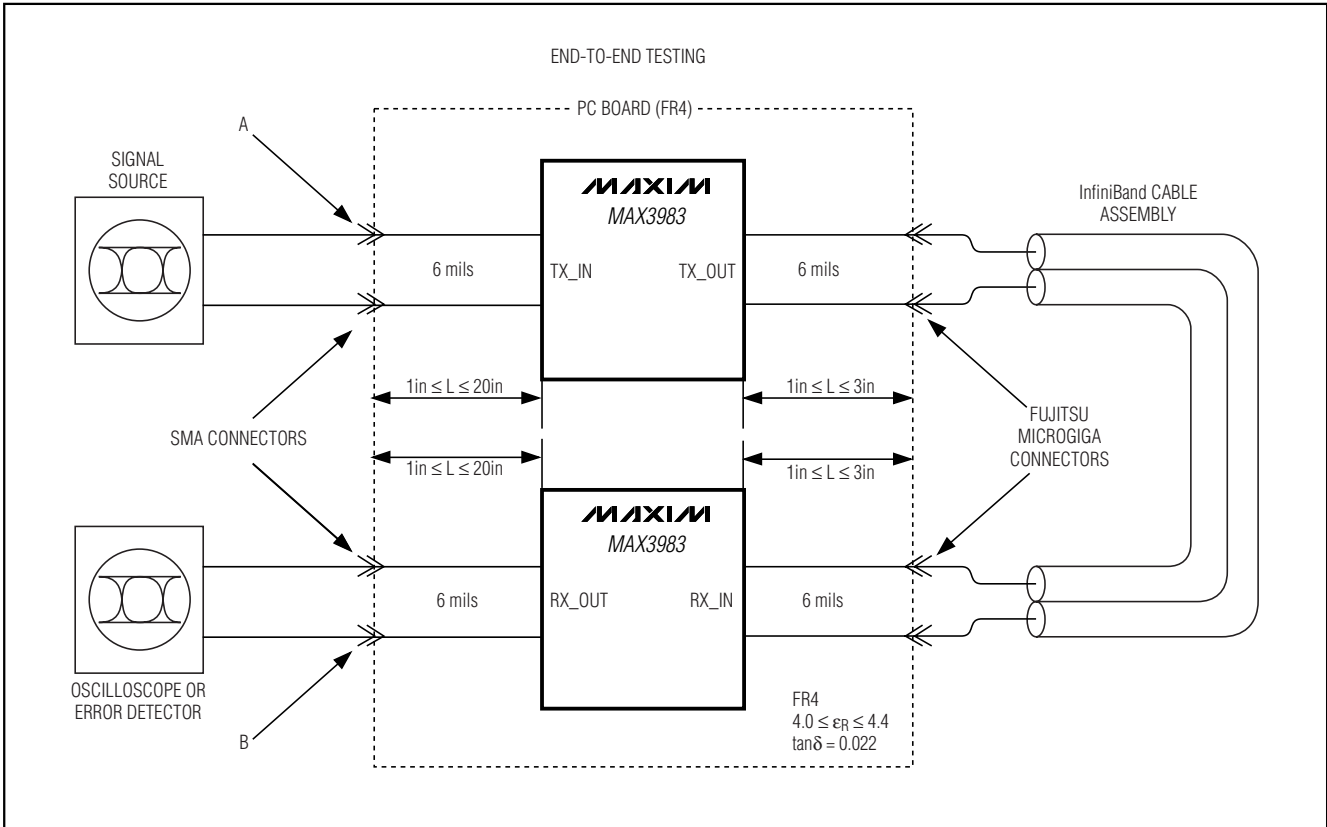

Figure 2. End-to-End Test Setup. The points labeled A and B are referenced for AC parameter test conditions.
Note 13: Cables are unequalized, Amphenol Spectra-Strip 24AWG or equivalent equipped with Fujitsu “MicroGiga” connector or equivalent. Residual deterministic jitter is the difference between the source jitter at point A and the load jitter at point B in Figure 2. The deterministic jitter (DJ) at the output of the transmission line must be from media-induced loss and not from clock-source modulation. Depending upon the system environment, better results can be achieved by selecting different preemphasis levels.